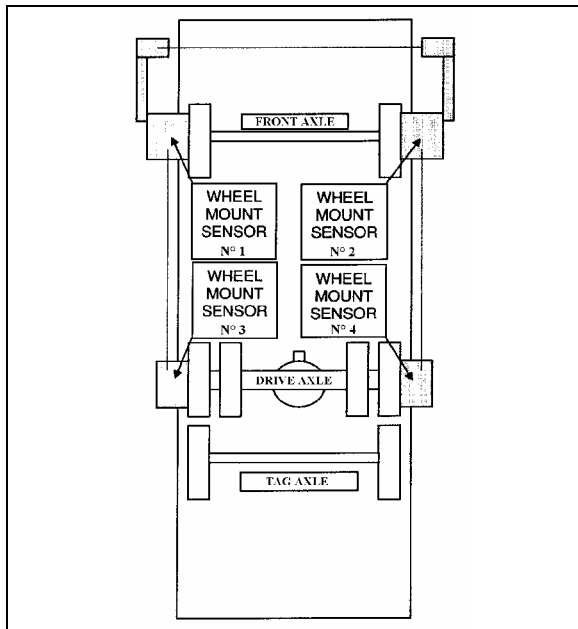

FIGURE 8: FRONT & DRIVE AXLE ALIGNMENT 11025
- Remove and reinstall all wheel mount sensors on the drive and tag axles (fig. 8);
Reinstall wheel mount sensors as shown in figure 8. For example, the sensor from the right side of the front axle is mounted on the left side of the tag axle. For corresponding wheel mount sensor reference numbers, refer to figure 6.